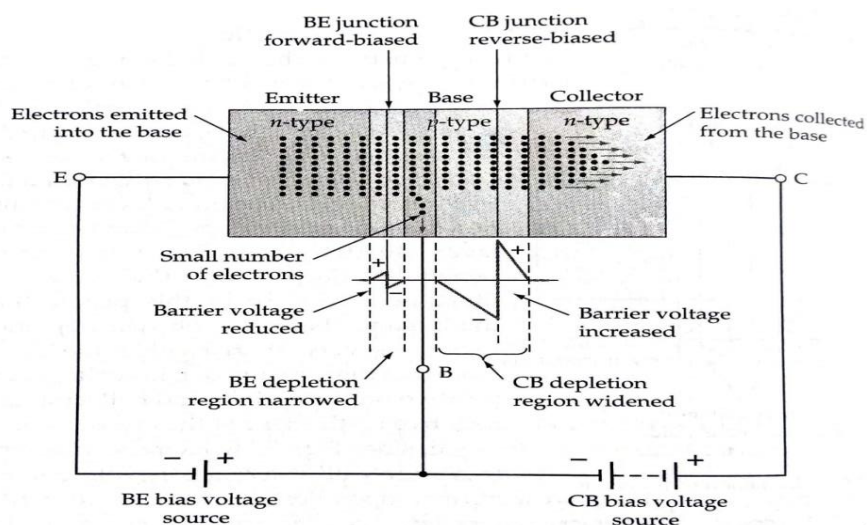

Fig. 2.4 : npn transistor with external bias voltages
Consider Fig. 2.4, which shows an npn transistor with external bias voltages. For normal operation, the base-emitter (BE) junction is forward-biased and the collector-base (CB) junction is reverse-biased. Note the external bias voltage polarities.
into the base than when the junction is unbiased, (see Fig. 2.4). The electrons crossing from the emitter to the base arrive quite close to the large negative-positive electric field (or barrier voltage) at the CB depletion region. Because electrons have a negative charge, they are drawn across the CB junction by this bias voltage. They are said to be collected.